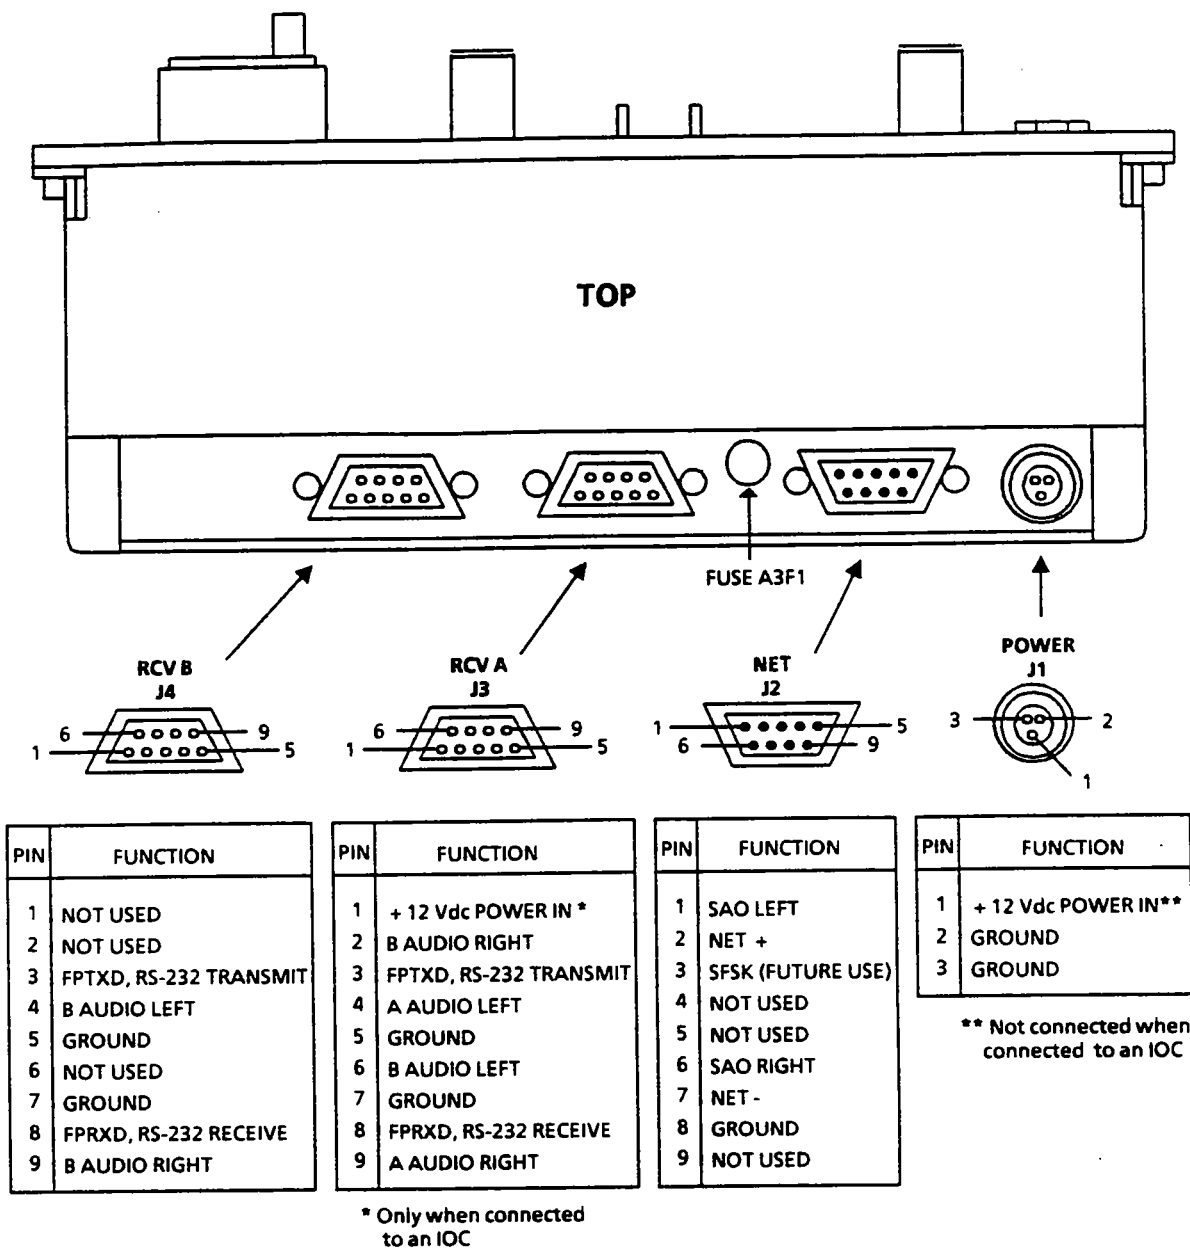

Figure 2-2. WJ-9605 Rear Panel Connectors
Table 2-1 lists all external connectors on the WJ-9605 and provides a brief description and the reference designator for each. The connectors are located on a ledge on the rear panel except for the PHONE jack which is located on the front panel. **Figure 2-2** shows the location of the rear panel connectors.
2.2.2.1 POWER, Power Input Connector (J1) - This three-pin, LEMO-type connector accepts +12 Vdc for powering the WJ-9605. However, this connector should not be connected to a power source if the WJ-9605 is connected to a unit with a host interface via the RCVR A connector (J3) (see **paragraph 2.2.2.3**). The WJ-9605 requires approximately 5 watts. See **Figure 2-2** for the pin assignments of this connector.
2.2.2.2 NET, Net Control Bus Interface Connector (J2) - This nine-pin, male D-type connector is used to connect the WJ-9605 to the WJ NET interface bus. This interface allows the WJ-9605 to control any device connected to the bus. See **Figure 2-2** for the pin assignments of this connector.
2.2.2.3 RCV A, Receiver A Interface Connector (J3) - This nine-pin, female D-type connector provides the interface between the WJ-9605 and its controlled device(s). This interface at this connector can be used to control a single device (device direct) or can control multiple devices via a Host Interface option (IOC routed) installed in the device's frame. See **Figure 2-2** for the pin assignments of this connector.
2.2.2.4 RCV B, Receiver B Interface Connector (J4) - This nine-pin, female D-type connector provides the interface between the WJ-9605 and the connected device. This interface is only used during device direct operations (not IOC routed). See **Figure 2-2** for the pin assignments of this connector.
A 1 amp microfuse (A3F1) is provided for overcurrent protection from the dc power input at either J1 or J3. This fuse may be accessed by removing its accessing cap which is located on the rear panel ledge between the NET and RCV A connectors (see Figure 2-2).